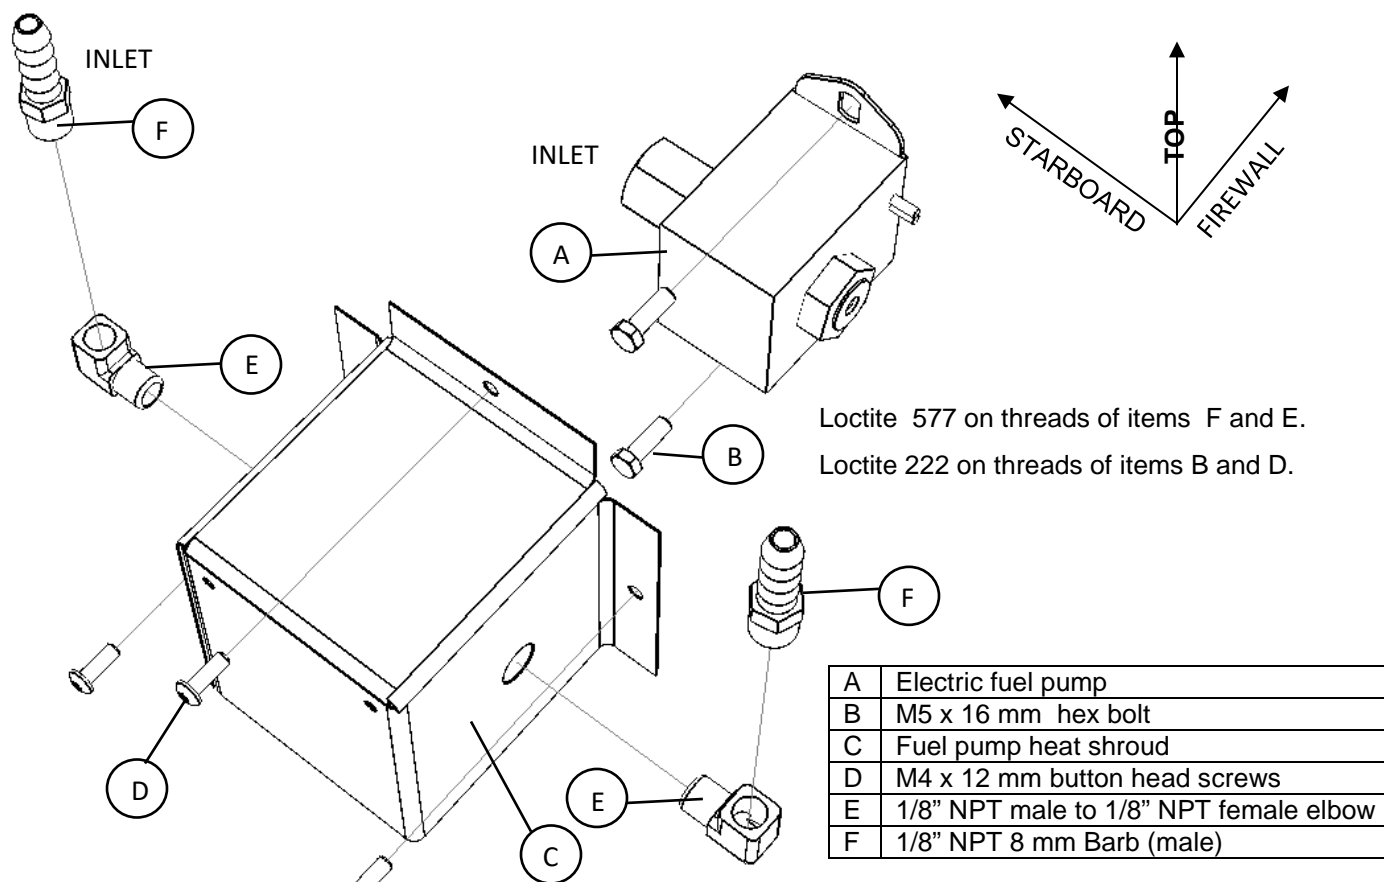

Figure 62: Electric fuel pump fitment / assembly (912 ULS).
3. Remove tie wraps as required. Remove the heat-shrink (1) from the wires and desolder.
4. Cut the safety wire (2), pull the fire resistant sleeving (3) back and remove (refer to paragraph 15.1) the two ear clamps retaining the fuel hoses to the fuel pump fittings.
5. Undo the fuel pump fittings (4) (refer to Figure 62).and remove.
6. Undo the three bolts / screws (5) retaining the fuel pump heat shroud (6) to the firewall and remove the shroud (pull the wires attached to the pump through the rubber grommet on the pump cover side).
Note: The cover retaining screws (5) (shown in this photograph as hexagonal head bolts) are button head screws. Refer to Figure 62.